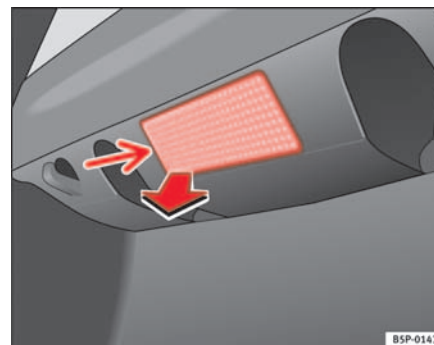

Fig. 187 Luggage compartment light
- Extract the tulip shaped fitting by pressing on the inside edge of this-arrow- using the flat side of a screwdriver. ⇒ fig. 187 ▶